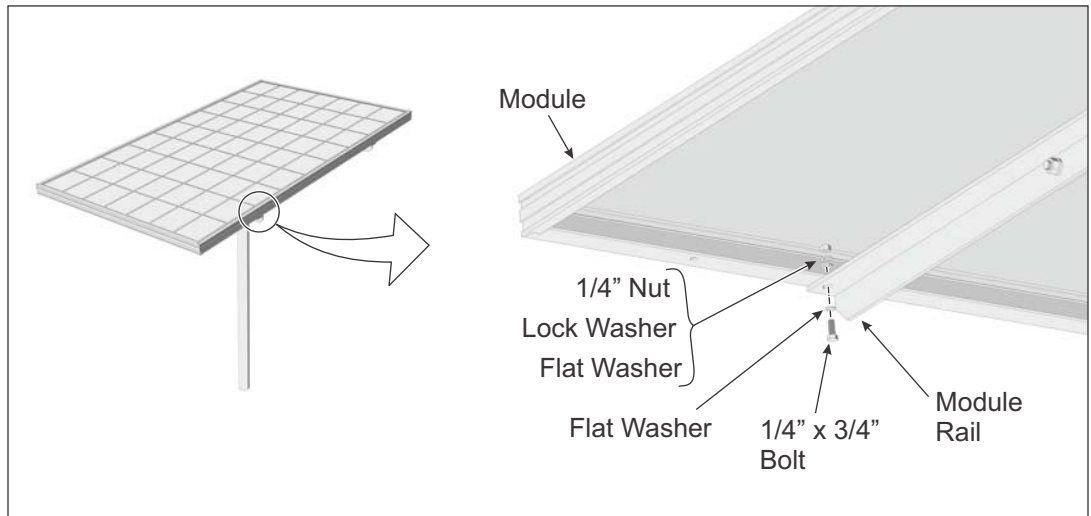

Figure 4-1: Installing PV Modules to Module Rails
- A. Place the PV Module on the Module Rails. Align the mounting holes and secure with 1/4" x 3/4" bolts and hardware. Each Module has four attachment points. Finger-tighten for now. (See Figure 4-1)